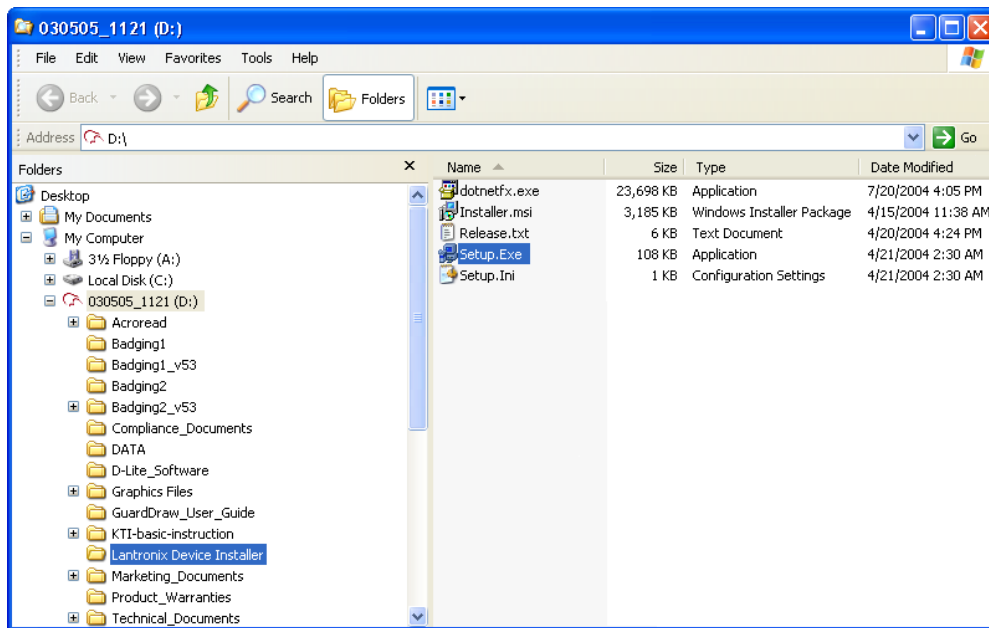

Figure 11: Windows Explorer - DeviceInstaller Setup.exe
2. Click on the **Explore the CD-ROM** link. Windows Explorer opens and displays the CD-ROM contents (see Figure 11).